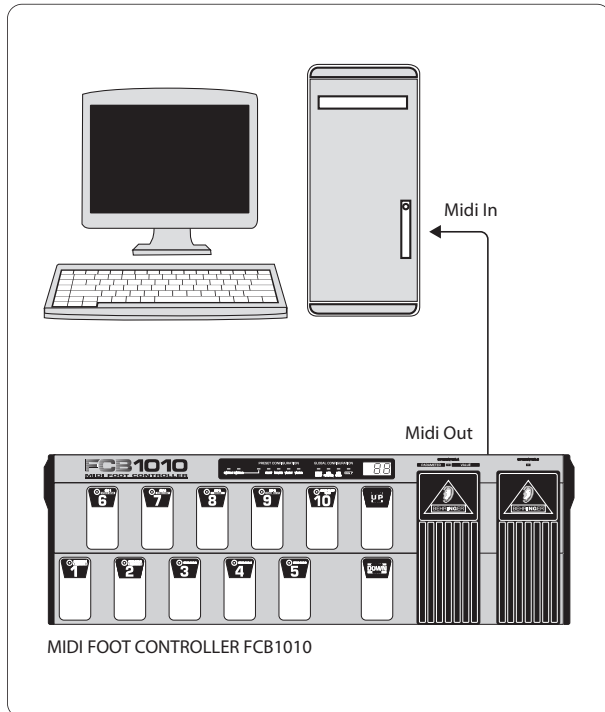

Fig. 2.5: Sending a SysEx-Dump
- Connect the MIDI OUT of your FCB1010 to the MIDI IN of your sequencer/computer (see fig. 2.5)